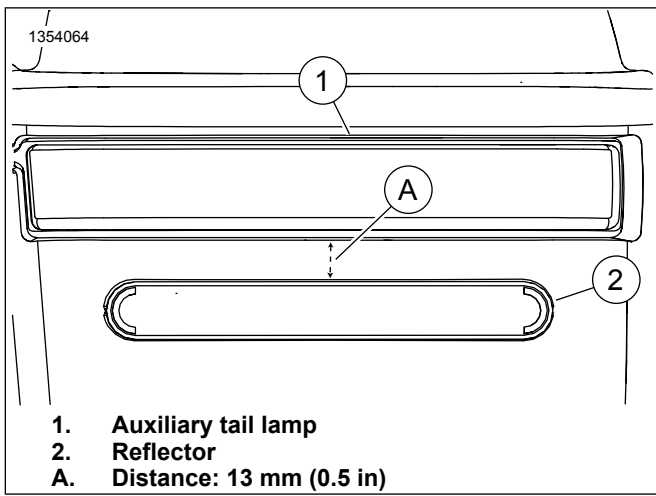

Figure 9. Reflector Placement
- b. See Figure 9. Place reflector (2) on rear of saddlebag centered and Distance: 13 mm (0.5 in) below auxiliary tail lamp (1).